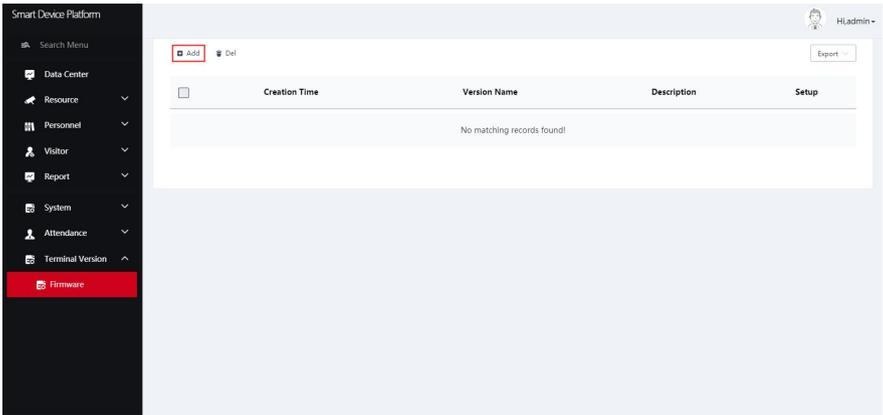

Figure 5-25
Step 1: In the smart device platform interface, click "Terminal Version→Firmware" to enter the firmware version interface, as shown in Figure 5-25 below.